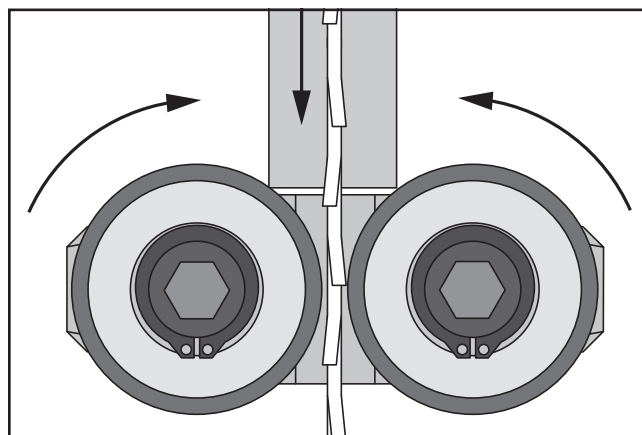

Figure 33. Blade guide bearings evenly and lightly touching the sides of the blade.
4. Loosen both cap screws behind the guide bearings, then rotate the adjustment cap screws so the bearings evenly and lightly touch the sides of the blade (see the illustration in **Figure 33**) without deflecting it one way or the other.